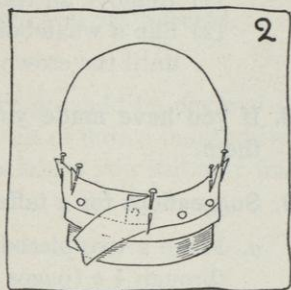

FIG. 2.
- e. When you reach the back of the block where you started, let the end of the ribbon with which you are working lap over the turned-back end with which you started, then pin (see Figure 2).